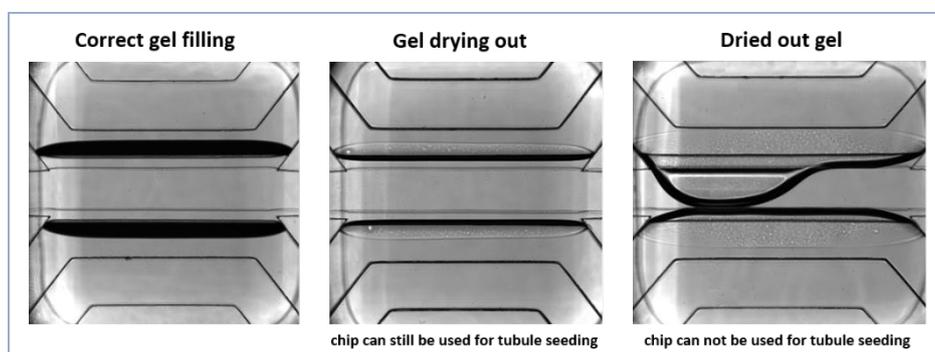

**Figure 8:** Caco-2/HT29 cells in the OrganoPlate 3-lane directly after seeding (left), after 1 day (middle) and after 4 days (right).
- a. For examples of dried out gel, see section 5. Trouble Shooting, figure 8.
13. An example of a tubule culture against ECM in the OrganoPlate® 3-lane is shown in figure 8.